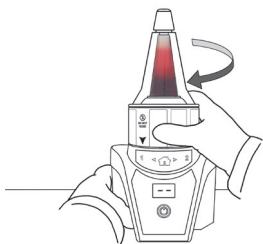

Figure 8
3. Following the 60-second countdown, rotate Disposable Unit ▼ to Position 1 to start the red blood cell removal mode (Figure 8).